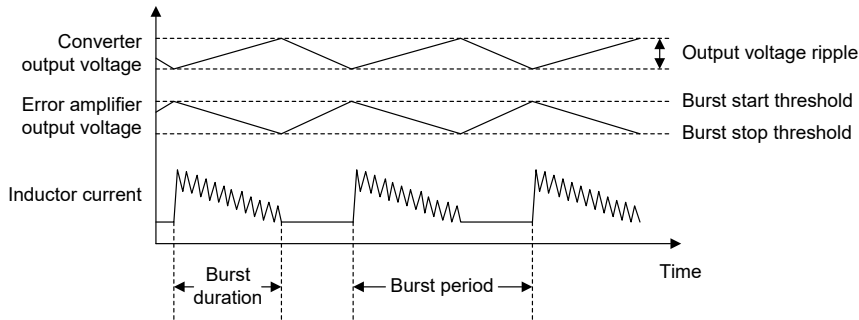

Figure 13. Pulse-Frequency Modulation (PFM)
In PFM mode, in medium to heavy load, SGM62110 and SGM62111 operate in FPWM mode. To improve the efficiency at light load, the device switches to the pulse-frequency modulation (PFM) mode. In the PFM mode, a sequence of burst switching cycles occurs to maintain the output voltage followed by an off period (Figure 13). A built-in comparator looks at the error amplifier's (EA) output voltage and pre-defined PFM threshold voltage. When the EA output is higher than